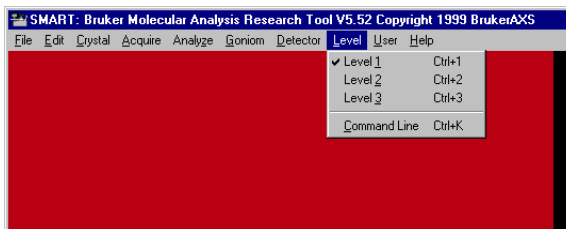

Figure 4-16. Level menu
9. Click Level > Level1 (Figure 4-16). This level has a minimum number of options for routine problems, such as YLID, and will be used for this tutorial experiment. Level2 has more crystallography options required for special problems. Level3 is designed for use by a system manager only.